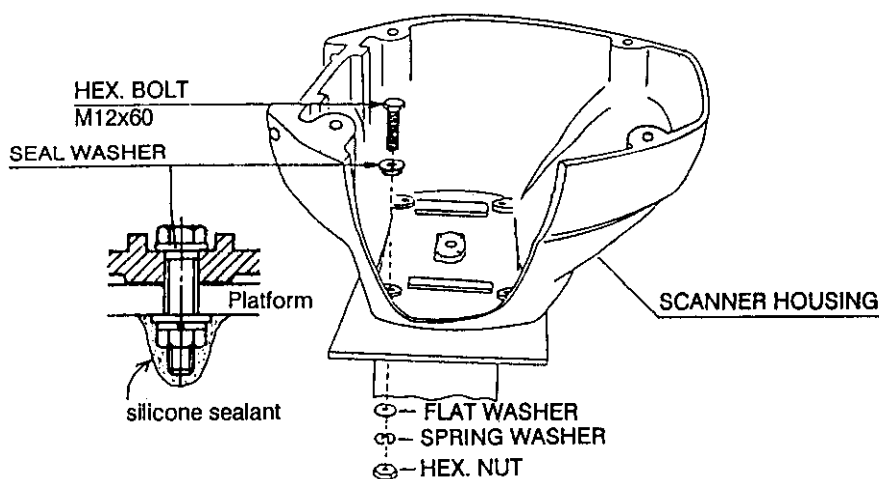

Fig.3 Mounting of Scanner Housing
4. Insert the bolts with the seal washers from inside the scanner housing so that they will not touch the transceiver module. Apply silicone sealant to washers and nuts, and then use them to secure the housing. Then, coat exposed parts of nuts, bolts and washers, as shown in Fig.3.